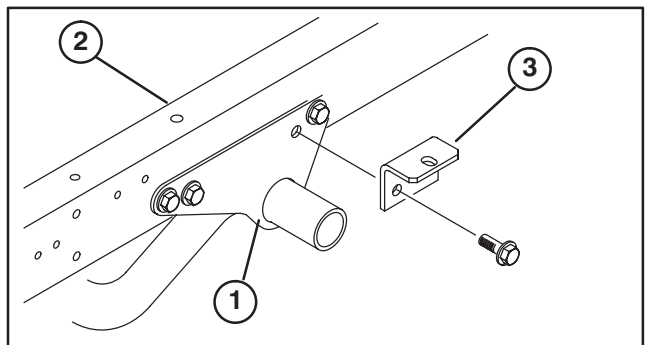

Figure 4
1. Remove (2) flange head capscrews and flange locknuts securing rear of each engine frame mounting bracket to each side of vehicle frame (Fig. 4).
2. Loosely secure a attachment bracket to each engine frame mounting bracket and vehicle frame with (2) flange head capscrews and flange locknuts previously removed (Fig. 4).